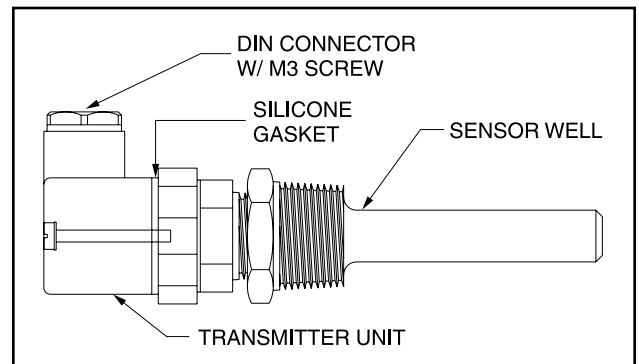

Figure 30 - TEMPERATURE TRANSMITTER
2. Remove DIN connector plug from transmitter, Figure 30.